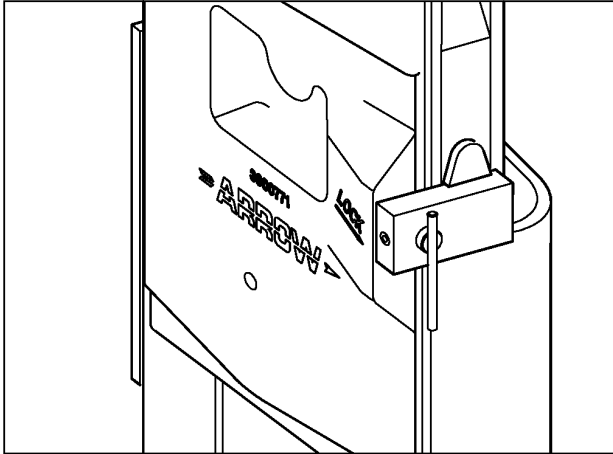

Figure 5-3
1. Raise the mast to the vertical position and lock the weight in place (see Figure 5-3).